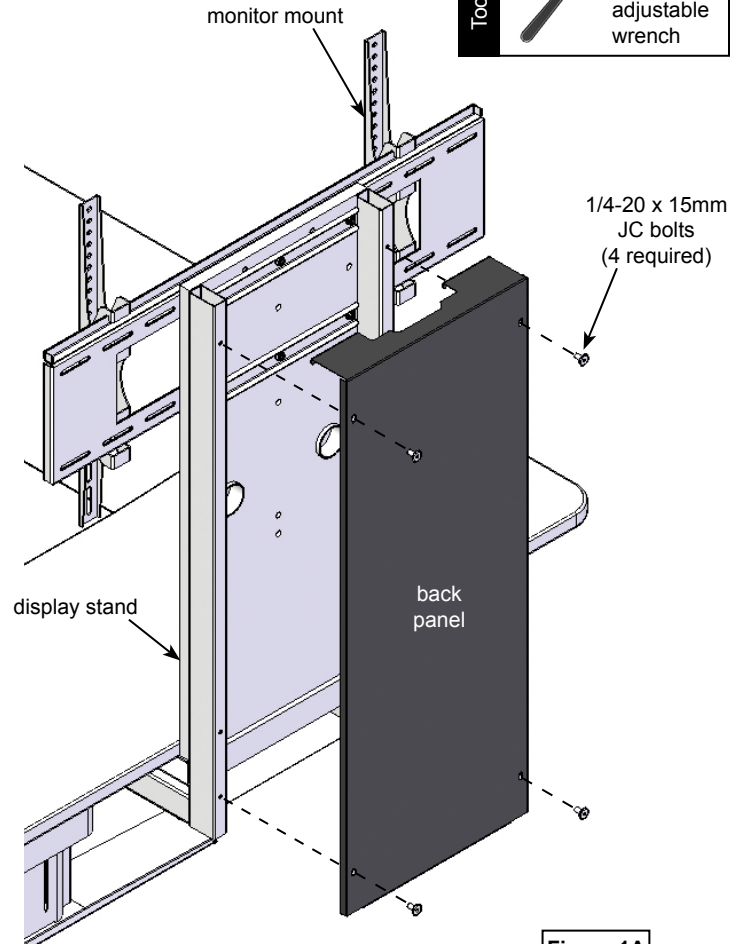

Figure 1A
- To remove the monitor mount, first remove the (4) 1/4-20 x 15mm JC bolts and back panel. **Figure 1A.**